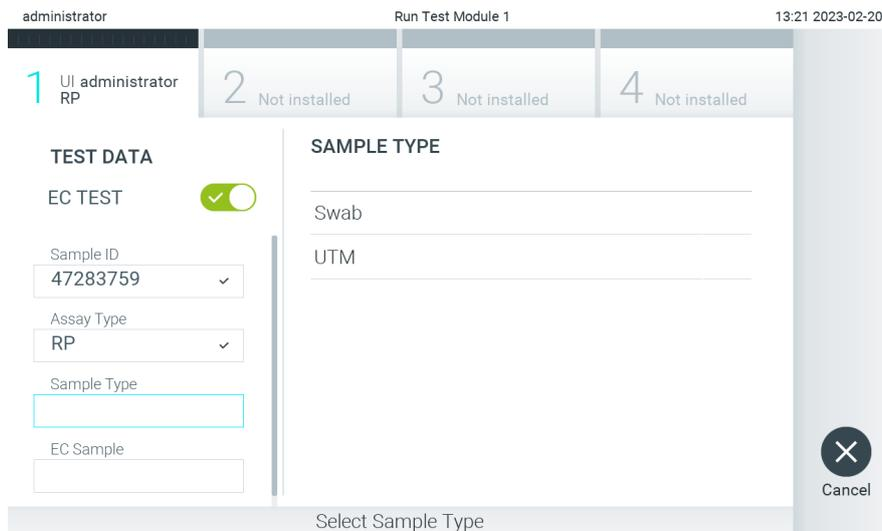

Figure 94. Choosing a sample type.
5. If required, select the appropriate sample type from the list (Figure 94).